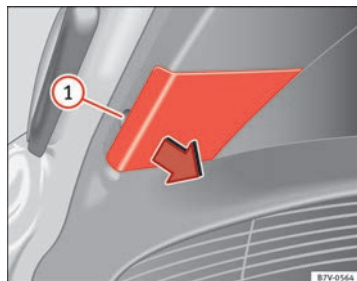

Fig. 211 On the rear lid:
3. Extract the cover carefully using the flat part of the screwdriver from the vehicle tool kit as a lever (⇒ Fig. 200) on the indent ⇒ Fig. 211 ①.